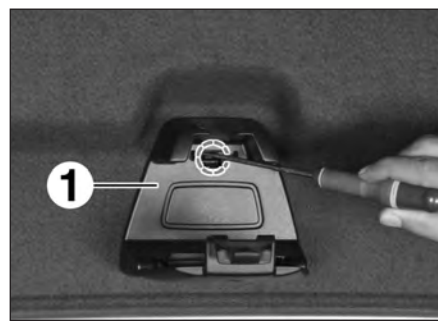

FIG.85
- le support (1) du triangle (Fig.85),